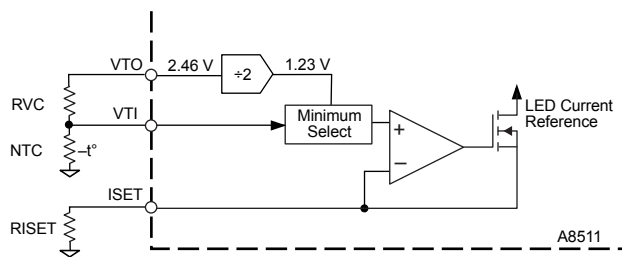

Figure 5. Thermal derating reference circuit
- Analog dimming using the VTI pin. External DC voltage can be applied to the VTI pin to control LED current. LED current varies as a function of voltage on the VTI pin. This configuration is shown in figure 5.
Thermal derating can be achieved by connecting an NTC thermistor between VTI and ground, as shown in figure 5. When the A8511 is enabled and  $V_{TI} > 1.1$  V, 100% current for the LEDs is controlled by the ISET and DIM pins. When  $V_{TI}$  falls below 1.1 V,  $V_{ISET}$  starts to follow  $V_{TI}$ , resulting in  $I_{LEDX}$  varying proportionately with  $V_{TI}$  represented by the overlap of the dotted and solid curves. The proportion of  $I_{LED}$  to  $V_{TI}$ , when LED current is controlled through the VTI pin, is calculated as: